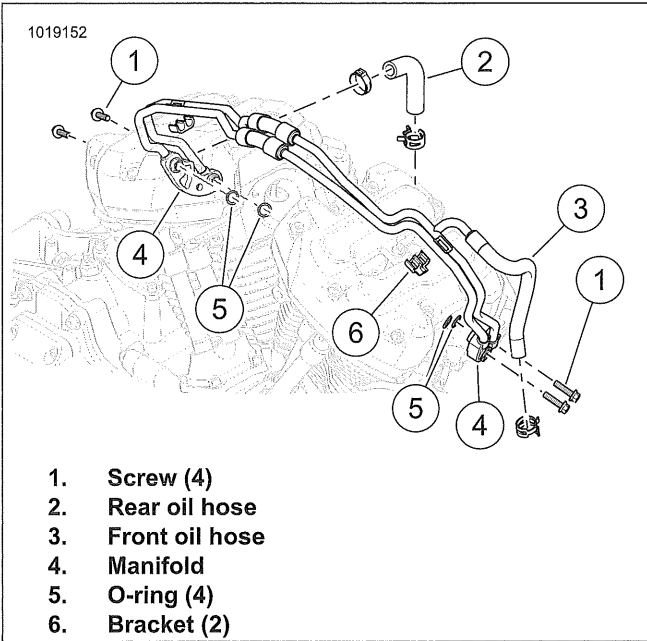

Figure 4-13.
- 2. See Figure 4-13. Disconnect upper hose (3) from oil cooler.
- b. Blow into the hose (3) where disconnected from oil cooler.
- 4. Disconnect hose (2) from transmission fitting.
- 5. Remove screws (1) from each manifold (4).
- 7. If necessary, remove rear oil hose (2) from line assembly.
- 2. See Figure 4-13. If removed, install hose (2) to line assembly. Secure clamp. See CRIMP CLAMPS (Page 4-16).